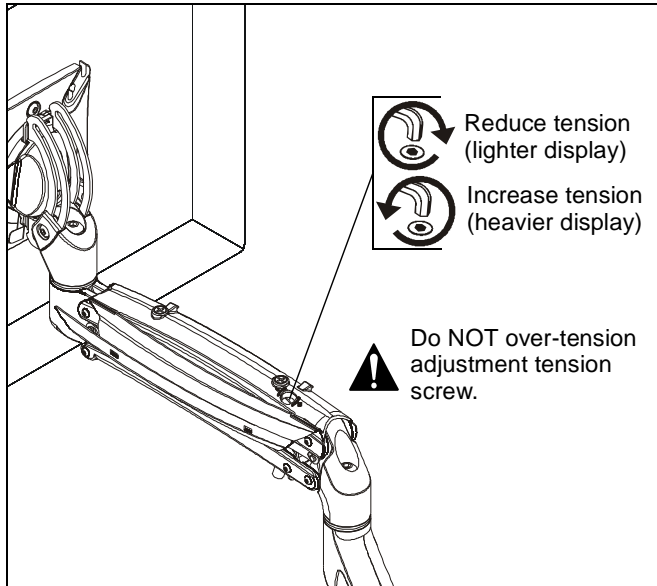

Figure 17
**NOTE:** Tension may also be adjusted with upper tension adjustment screw inside cable management cover and 1/8" hex key (N). (See Figure 17)